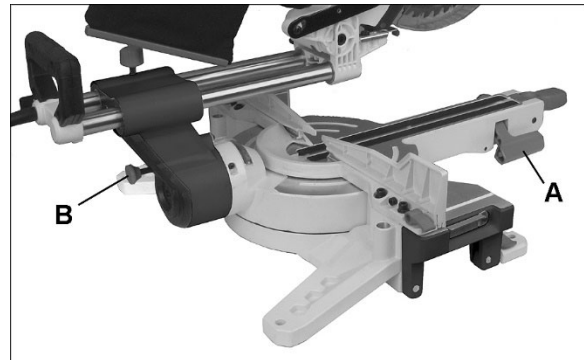

Figure 8-4
2. Pull up bevel lock handle (A, Figure 8-4) to unlock tilt mechanism.
3. Pull out on bevel pin (B, Figure 8-4) and tilt cutting arm to 90° position (0° on bevel scale) against positive stop.
4. Push down lock handle (A) to secure cutting head angle.
4. Pull up bevel lock handle (A, Figure 8-4).
5. Pull out bevel lock pin (B, Figure 8-4) and tilt cutting head to 45-degrees left. The cutting head should stop at the 45-degree mark on scale.
10. If adjustment is needed, turn left set screw (C) as needed to bring cutting head to 45-degree mark on scale. Verify the setting using a 45-degree angle tool on the table and against blade.